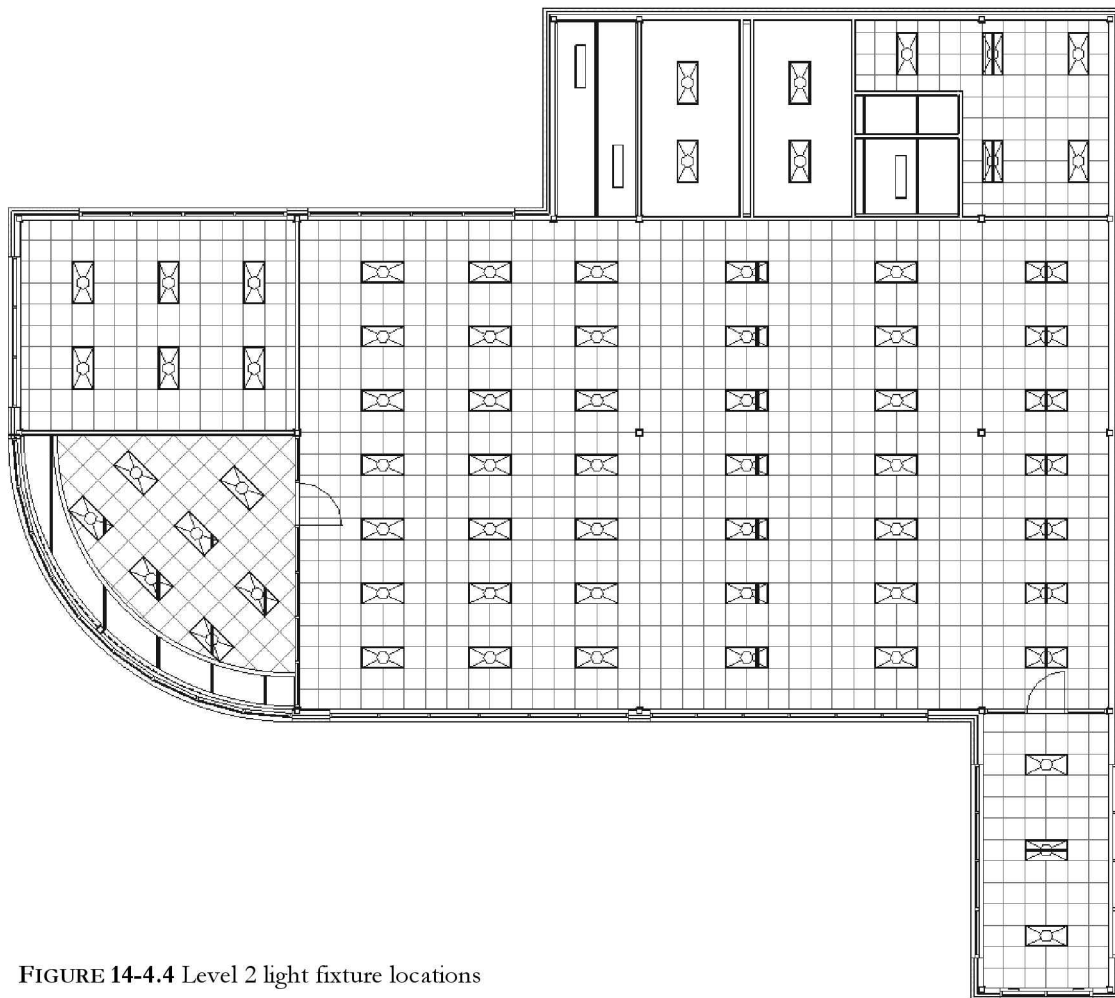

FIGURE 14-4.4 Level 2 light fixture locations
16. Place the Level 2 light fixtures as shown in Figure 14-4.4.